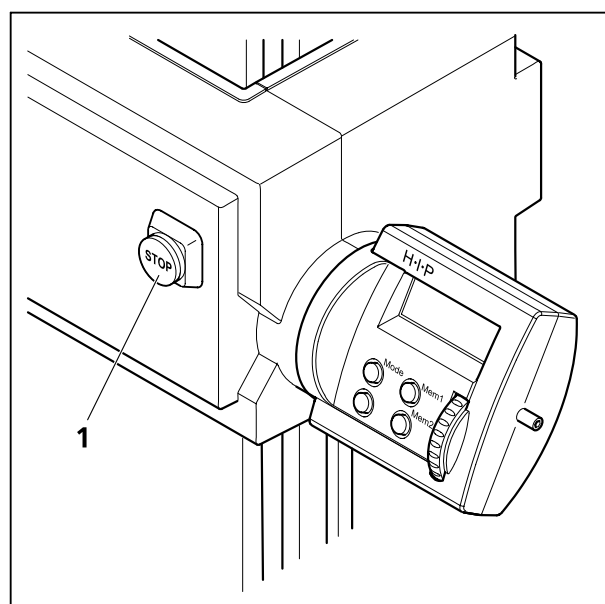

Fig. 49 STOP button
- Push in the STOP button (Fig. 49/1) to switch off the focusing drive.